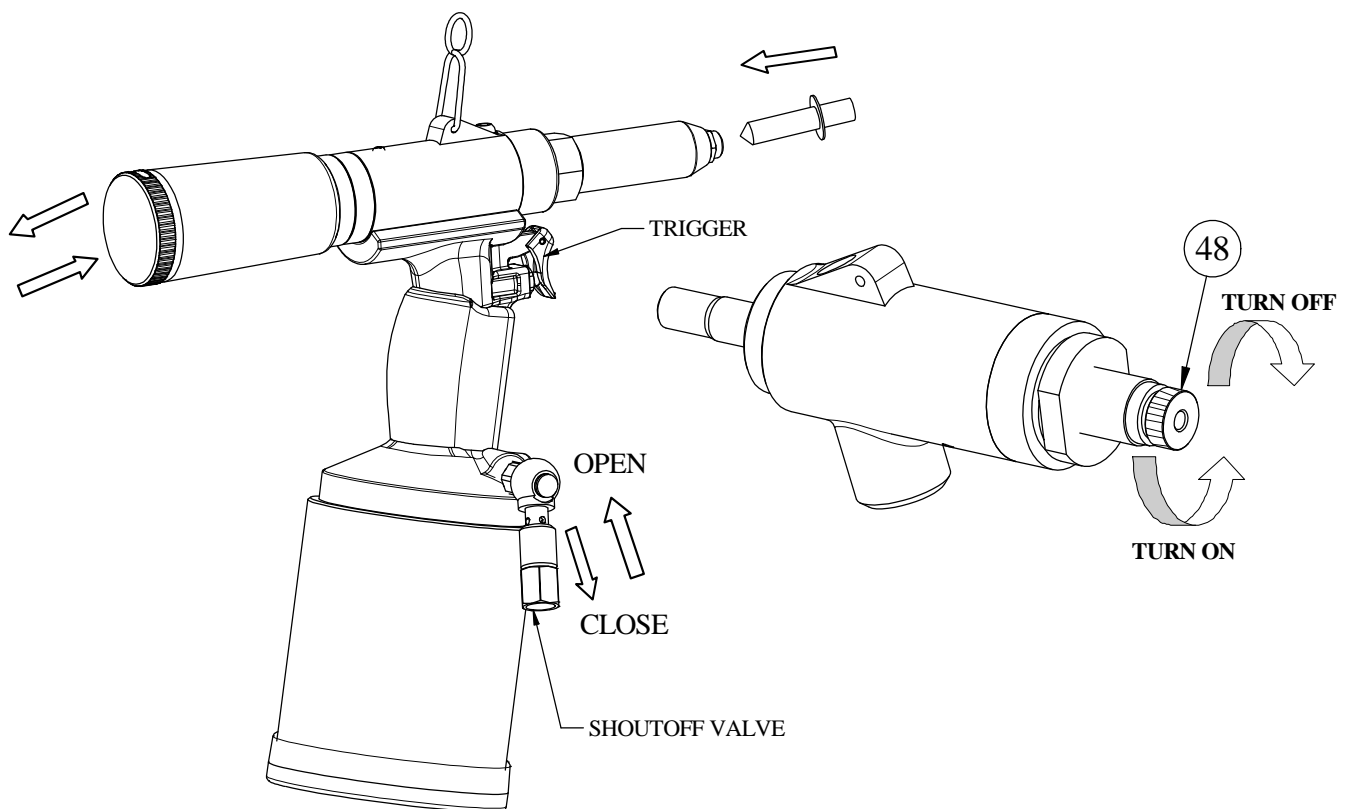

Fig. 3 Detail illustration of open the suction and clean up the spent mandrel bottle.
- b. Is it make suction switch is it control suction to come, anticlockwise direction it is heavy for suction to, the clockwise suction is diminished to fasten, can close the suction(Index 48 in Figs.3 & 5)
- d. When the spent mandrel bottle is filled with rivet's rod, then pulls out the mandrel bottle adapter (Index 61 in Figs.3 & 5) and pours out all of them.